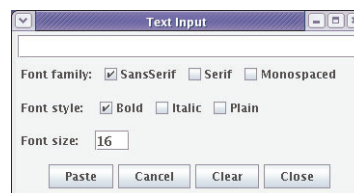

Figure 31. Text Input Window
2. Click on the text input tool  to open the Text Input window shown in Figure 31.